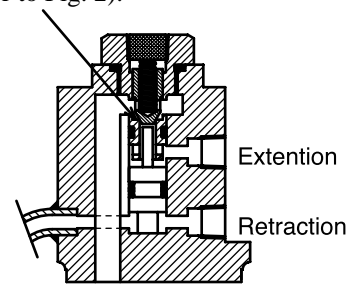

Fig2
- ⑤ Next, remove the extension pipe, and if oil overflows continuously out of the pilot check valve port of raising side, there may be faulty on the seat surface of pilot check valve (refer to Fig. 2).